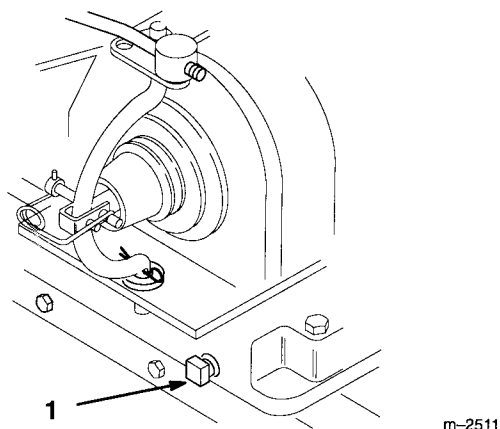

Figure 19
4. Place a pan below the oil drain. Open the drain by removing the plug (Fig. 19).